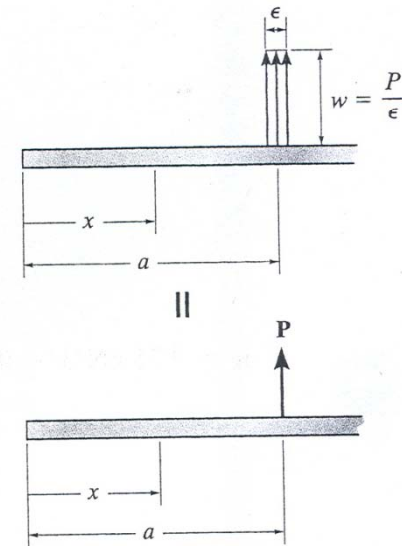

Fig. 12–15
**Singularity Functions.** These functions are only used to describe the point location of concentrated forces or couple moments acting on a beam or shaft. Specifically, a concentrated force  $\mathbf{P}$  can be considered as a special case of a distributed loading, where the intensity of the loading is  $w = P/\epsilon$  such that its length is  $\epsilon$ , where  $\epsilon \rightarrow 0$ , Fig. 12–15. The area under this loading diagram is equivalent to  $P$ , *positive upward*, and so we will use the singularity function